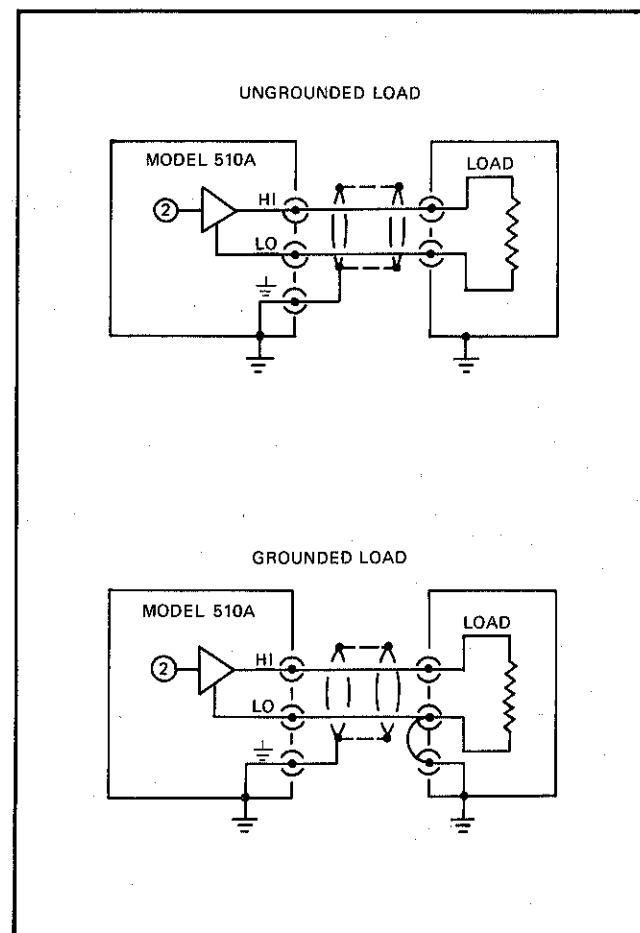

Figure 2-2. LOAD CONNECTIONS
- Shielded, twisted pair load cables should be used. Typical load connections are shown in Figure 2-2.